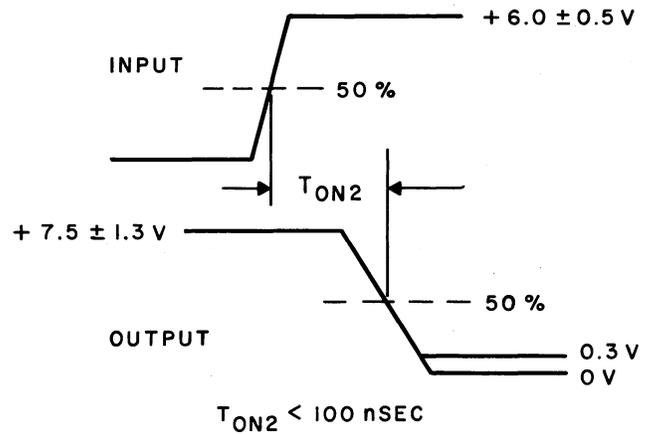

Fig. 36 - (EIA Interface Test)
(2) Rotate the switch through positions 6 to 9. The input-output wave forms shall be as specified in Fig. 36.